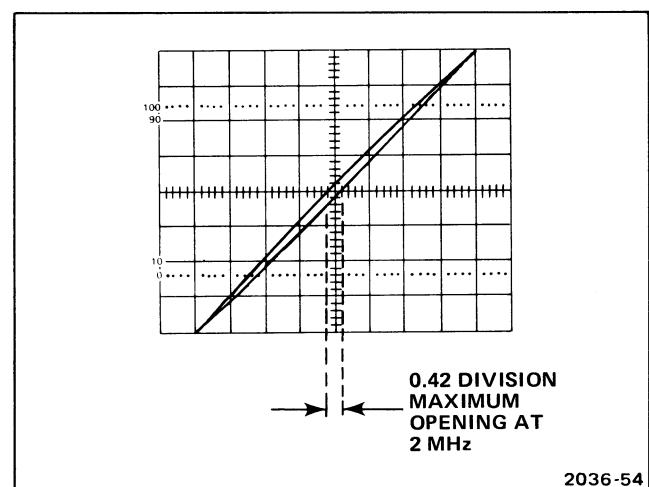

Fig. 6-10. X-Y phase difference.
b. Connect test equipment as shown in Figure 6-10.
e. Vertically and horizontally center the display with the CH 1 and CH 2 POSITION controls (see Figure 6-10).
f. **ADJUST**—L1103 for minimum horizontal opening at the center horizontal graticule line (see Figure 6-10).
h. **CHECK**—Opening at center of display is 0.42 division (horizontally) or less (see Figure 6-10).